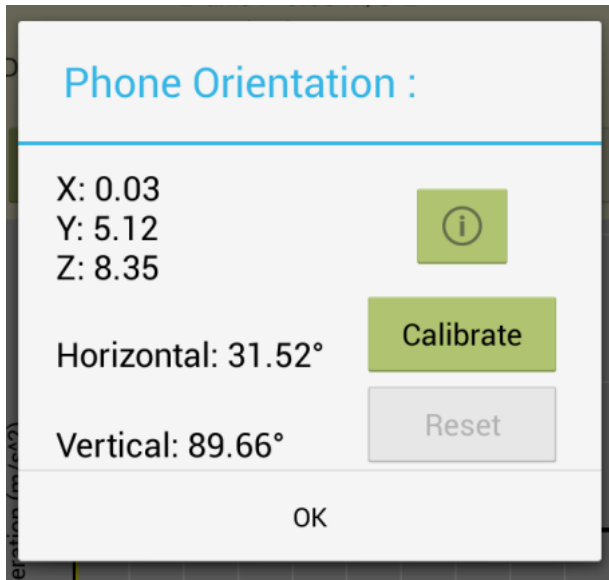

Fig 4.6
2. Orientation (Fig 4.6): Shows angles of phone to ground